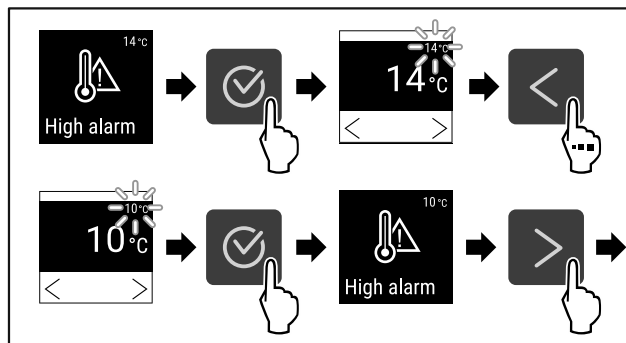

Fig. 127
- ▶ Complete steps (see Fig. 127).